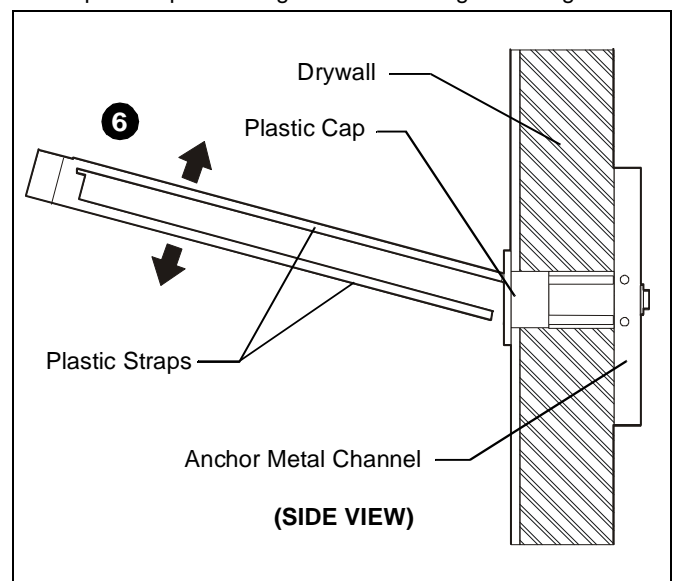

Figure 8
6. Snap off plastic straps on anchor at wall by pushing side to side, snapping off straps level with flange of plastic cap. (See Figure 8)